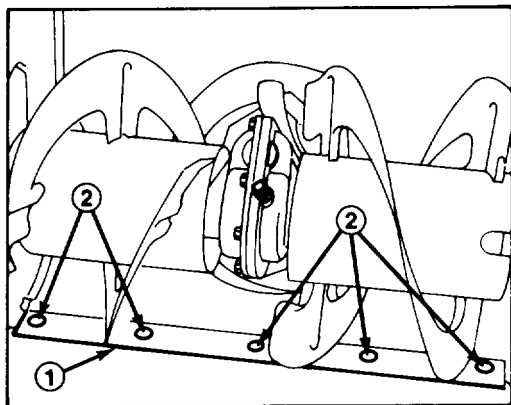

Figure 21
2. Adjust both skids so there is 1/8 of an inch (3 mm) between bottom of auger and level surface. When skids are adjusted correctly, tighten flange nuts. Next, check scraper blade that is mounted at bottom of auger housing (Fig. 21). To adjust scraper, loosen five mounting screws, level scraper, and retighten screws. Scraper must be parallel with level surface.